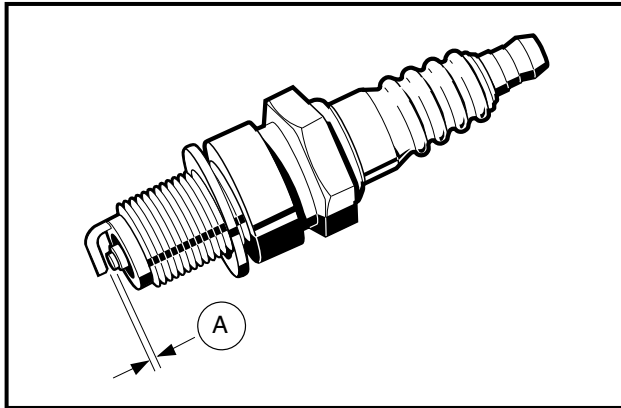

Figure 13-1 Spark Plug
Examine the plug (**Figure 13-1, Page 13-2**). The deposits on the plug base and electrode are an indication of the correct heat range and efficiency as well as a guide to the general condition of the engine, fuel and air mixture and ignition system. If all of the above conditions are proper, the spark plug should be a light brown color. There should be no bridging between the electrode and base. The electrode should not be eroded. Black color, excessive carbon, and/or a wet plug indicate the fuel is too rich. White, burned or melted electrodes indicate the fuel is too lean or pre-igniting. Oily deposits on the plug electrode are an indication of worn rings, valve guides, cylinder wall, etc. Also examine the spark plug wire. Remove rubber boot and inspect internal spring for damage. Inspect spark plug wire for damage and be sure spring coil is securely attached to spark plug. **See following WARNING.**
2. Use a wire type gauge. Bend the outside or ground electrode so only a slight drag on the gauge is felt when passing it between the electrode. Never make an adjustment by bending the center electrode. Set gap (A) to 0.027 - 0.031 inches (0.69 - 0.79 mm) (**Figure 13-1, Page 13-2**).